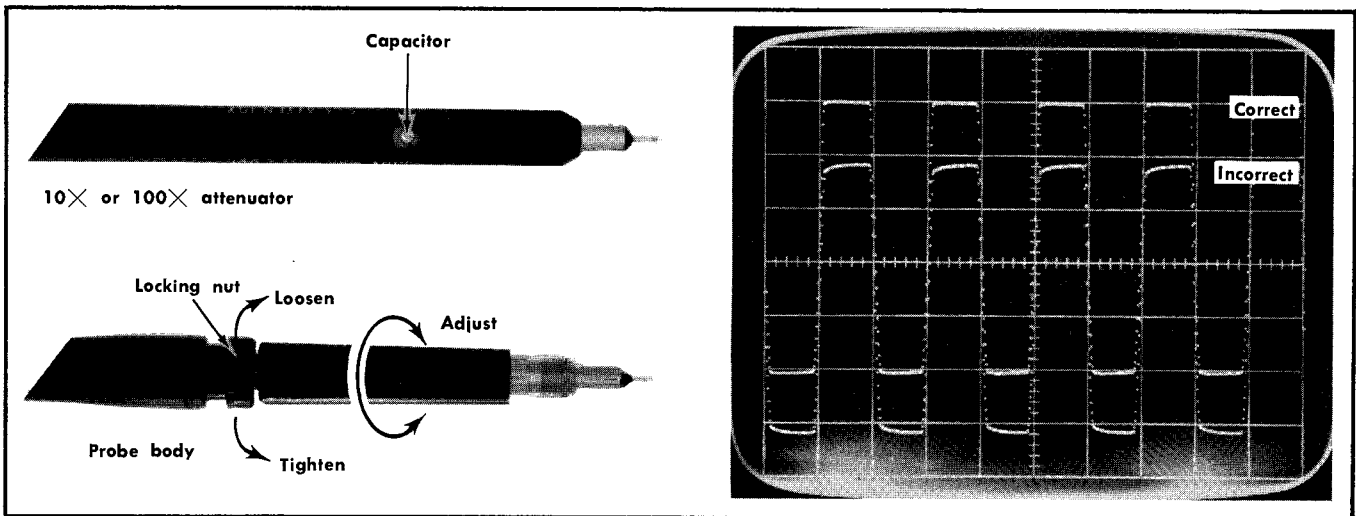

Fig. 5-4. Probe compensation.
d. Check for a level top of the square wave; see Fig. 5-4. To compensate the Probe for a flat top on the square wave display loosen the coupling (locking) nut, and rotate the probe body as necessary. When the correct display is obtained, finger-tighten the locking nut.
g. Check for a level top on the square wave. If not level, compensate the 10× attenuator by carefully setting the capacitor (see Fig. 5-4), for a level top.